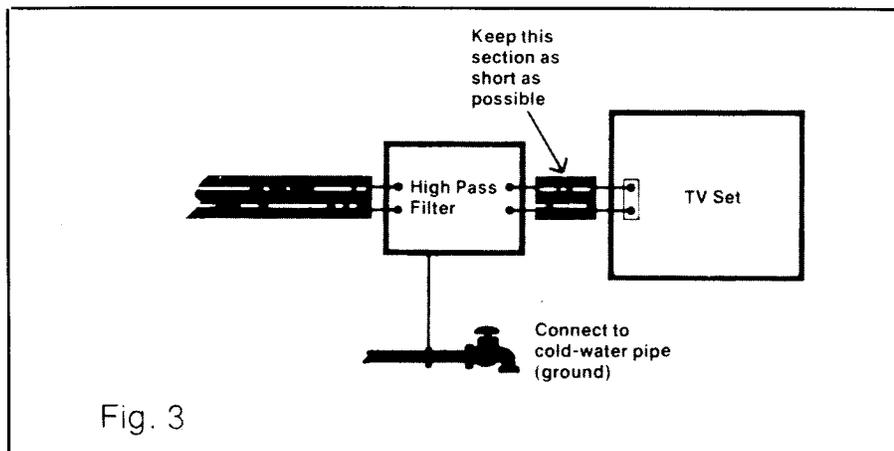

Fig. 3
c. For twin-lead wire, connect a very short (1” to 2”) “jumper” wire from the antenna input terminals of the set to the filter (see Figure 3). For coaxial cable, it will be necessary to obtain a jumper cable that has the proper connectors already installed. (This can be purchased at the time you buy the coaxial filter.)
g. The instructions provided with the filter you bought may call for a ground connection. The wire should be as short as possible and connected between the high-pass filter ground terminal and a metallic cold water pipe or a ground rod. Use bell wire for this connection (see Figure 3). Bell wire can be obtained from most variety stores.
c. For twin-lead wire, connect a very short (1" to 2") "Jumper" wire from the antenna input terminals of the set to the filter (see Figure 3). For coaxial cable, it will be necessary to obtain a jumper cable that has the proper connectors already installed.
g. The instructions provided with the filter you bought may call for a ground connection. The wire should be as short as possible and connected between the FM band rejection filter ground terminal and a metallic cold water pipe or a ground rod. Use bell wire for this connection (see Figure 3). Bell wire can be obtained from most variety stores.